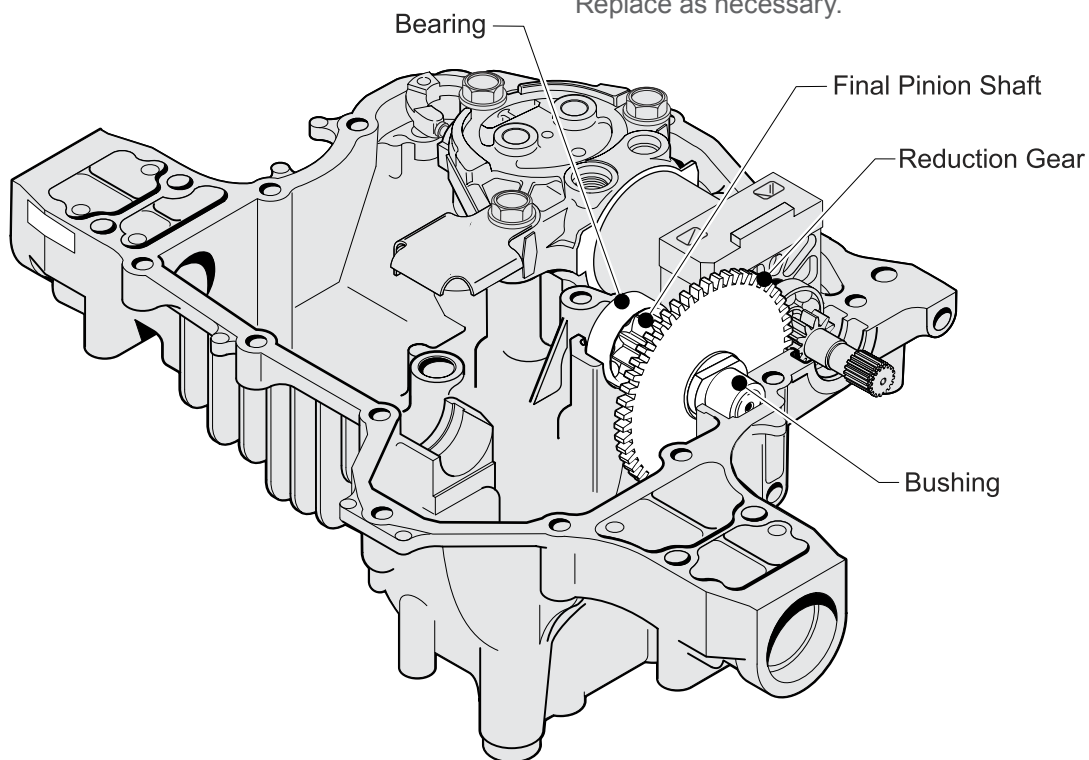

Fig. 10, Final Pinion Assembly Removal
1. Remove the Final Pinion Assembly from the Upper Case from its seated position. Separate the assembly, Bearing, Bushing, Washer, Final Pinion Shaft, and Reduction. (Fig. 10, 11)